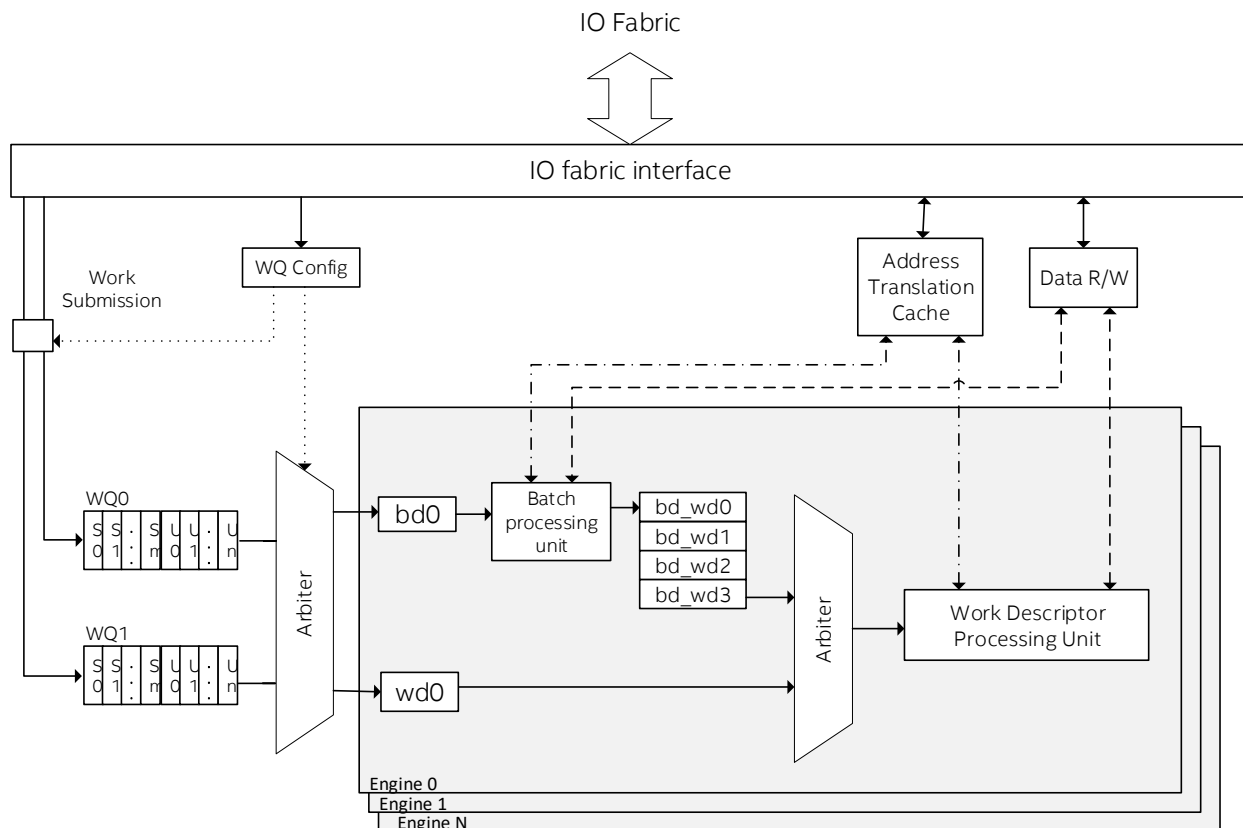

Figure 3-1: Abstracted Internal Block Diagram of Intel® DSA
Figure 3-1 illustrates the high-level blocks within the Intel DSA device at a conceptual level. Downstream work requests from clients are received on the I/O fabric interface. Upstream read, write, and address translation operations are sent on that interface. The device includes configuration registers, Work Queues (WQ) to hold descriptors submitted by software, arbiters used to implement QoS and fairness policies, processing engines, an address translation and caching interface, and a memory read/write interface. The batch processing unit processes Batch descriptors by reading the array of descriptors from memory. The work descriptor processing unit has stages to read memory, perform the requested operation on the data, generate output data, and write output data, completion records, and interrupt messages.